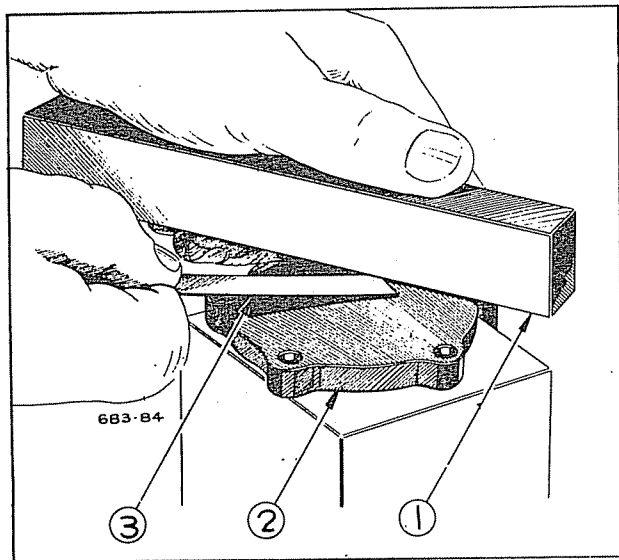

Fig. 39—Checking Body Cover.
- (12) The cover should be smooth, if scratched or grooved, replace it. Lay a straight edge across the inner surface as shown in Figure 39. If a .001 inch feeler gauge can be inserted between the cover and the straight edge, replace cover.